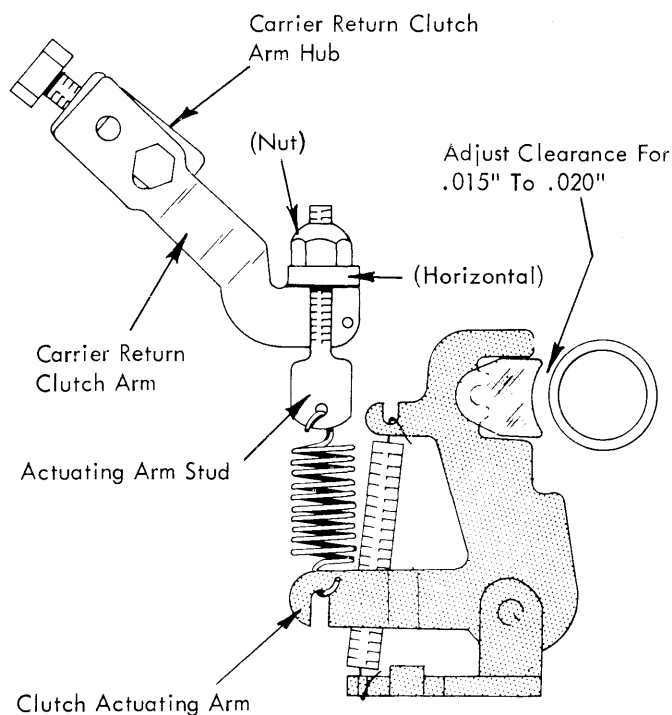

FIGURE 147. Carrier Return Actuating Arm Adjustment
- Carrier Return Clutch Arm - Adjust the arm on the carrier return clutch arm hub so that the formed lug which mounts the actuating arm stud will be horizontal when the machine is at rest (Fig. 147).
- Shoe Clearance - The nylon shoe on the clutch actuating arm should clear the carrier return clutch spring by .015" to .020" when the machine is at rest (Fig. 147). Adjust the self-locking nut on the actuating arm stud to obtain the proper clearance.